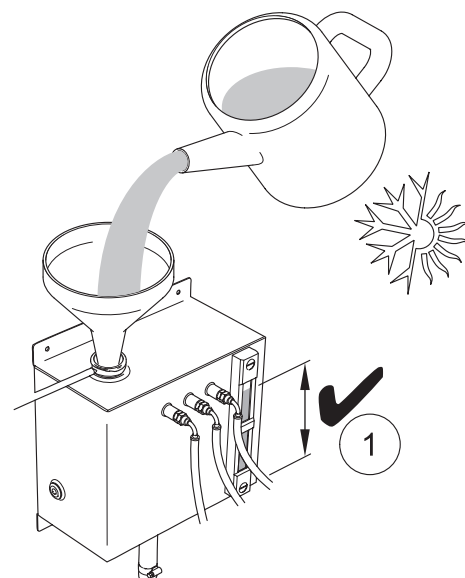

Figure 42
- 9 Top-up with 20% antifreeze solution , for normal operation, (50% for extreme conditions) to maximum level shown in figure 42 (1).